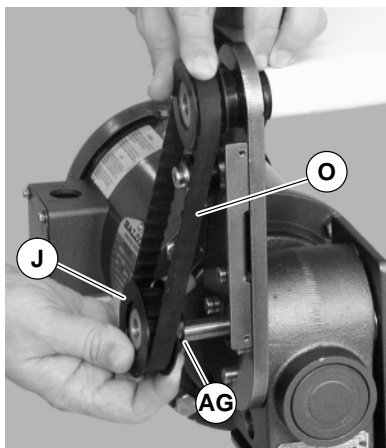

Figure 18
NOTE: If drive pulley (J of Figure 18) is replaced, wrap timing belt around drive pulley and complete step 3.
3. Loosen drive pulley set screws (AG of Figure 18). Remove drive pulley (J) and timing belt (O).
NOTE: Drive pulley (J of Figure 18) is removed. Wrap timing belt around drive pulley and complete step 16.